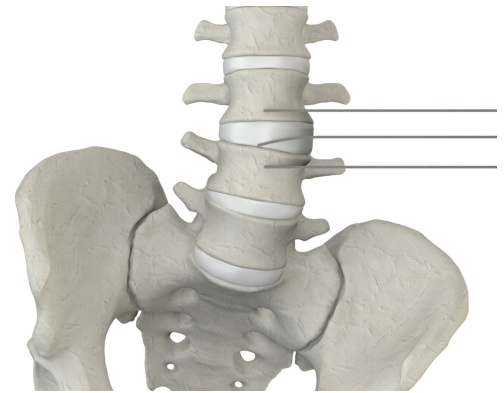

Figure 2
- ▲ Perform an annulotomy and subsequent lumbar channel discectomy to prepare for implant insertion (Fig. 2). It is important to also release the contralateral annulus to ensure proper indirect decompression with the LSTS interbody.